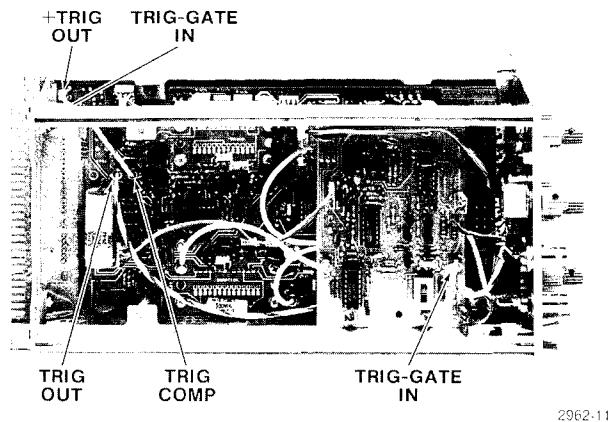

Fig. 5-2. Trigger cable connections.
These assignments provide rear interface input for a trigger/gate signal in place of front panel input. The signal lead (24B) must be user installed, but the ground (25B) is factory wired. To make the proper connections, remove the cable extending from the TRIG/GATE IN connector to the Input board (A11) by pulling the cable end from the socket. Install a twelve-inch cable with the proper connectors (Tektronix Part Number 175-1827-00), from the connector on the Input board (A11) labeled Trig/Gate In to the connector labeled Trig In on the Output B board (A14). Refer to Fig. 5-2.
ment of the front panel + TRIG OUT. To route the front panel + TRIG OUT signal to the rear interface connector and the rear complement signal to the front panel + TRIG OUT connector, interchange the cable connections to the Trig Out and Trig Comp (TC) coaxial connectors on the Timing board (A12). Refer to Fig. 5-2.